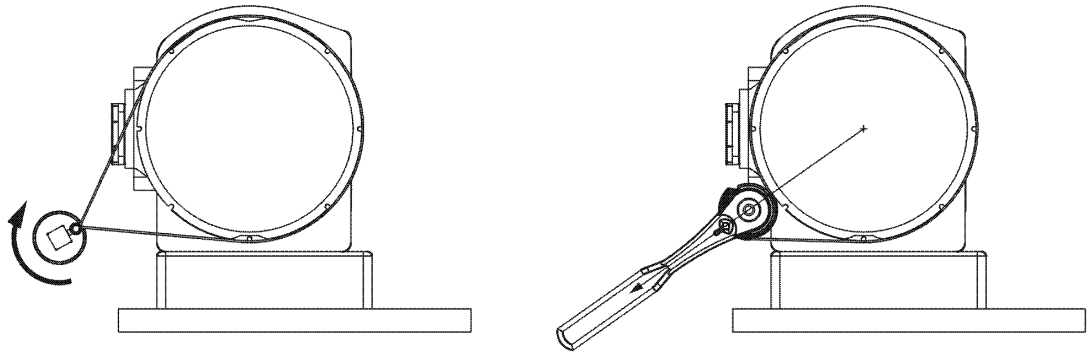

Figure 4-7
- Using strap wrench, torque heads slowly until heads are oriented into horizontal alignment of transfer tube holes. See Figure 4-7 with the wrench at 90° +/- 15° to the nut's surface as shown.